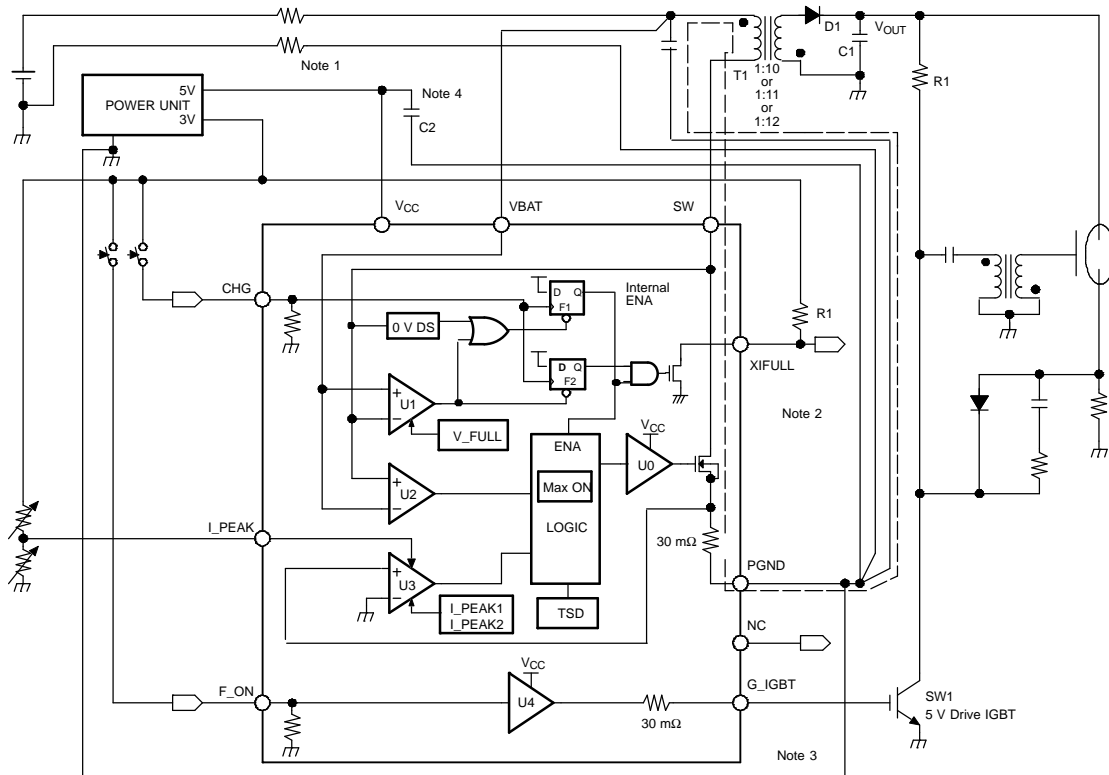

Figure 28. PCB Design Guideline
2. The loop indicated by dotted lines shown in Figure 28 should be laid out as small as possible to reduce surge voltage. If this loop is large, the parasitic inductance might cause device failure.
3. The parasitic resistance in the power path from the battery to the primary-side turn of the transformer should not be ignored. The TPS65552A has a one-point ground connection inside the IC at PGND PAD. Therefore, the PCB layout should also keep a one-point connection of ground at the PGND terminal of TPS65552A. Note: a bypass capacitor (C2 in Figure 28) is required to avoid noise by grounding.